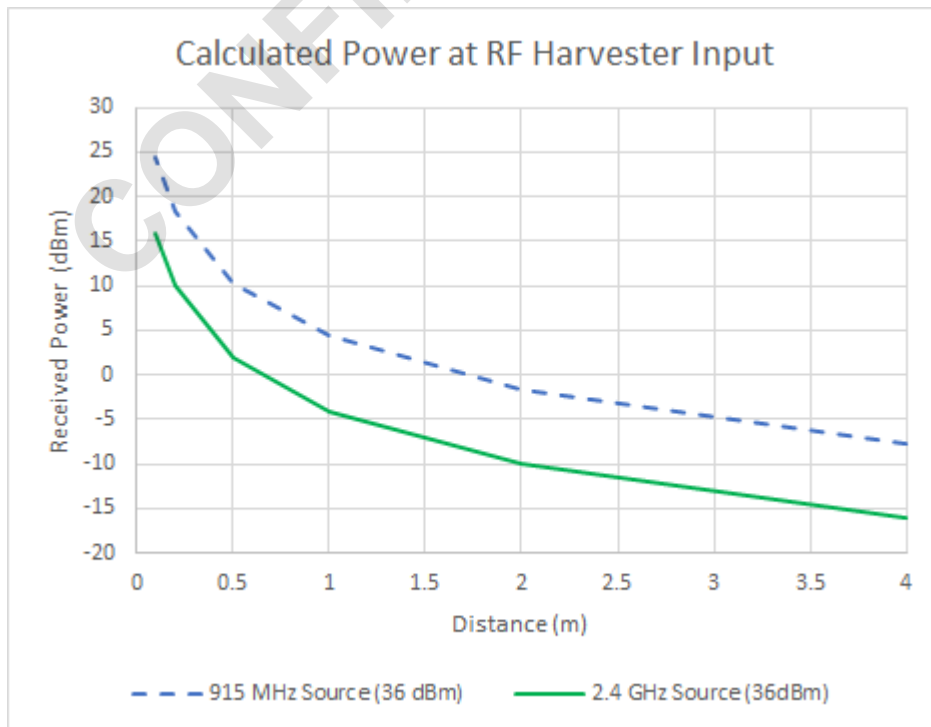

Figure 3 - Power at RF Harvester Input
- Figure 3 - Power at RF Harvester Input
From a 36 dBm (4 Watt) source, Figure 3 shows the calculated received power vs. distance for both 915 MHz and 2.4 GHz frequencies using the formulas provided in the next section.